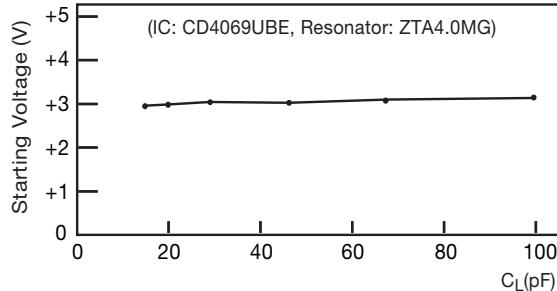

Figure 6.4) Starting Voltage Characteristics Against CL (CL1 = CL2)
**Starting Voltage:** Starting voltage means the minimum supply voltage at which an oscillating circuit can operate. Starting voltage is affected by all circuit elements. It is determined mostly by the characteristics of the IC. Fig. 6.4 shows an example of an actual measurement for the starting voltage characteristics against the loading capacitance.